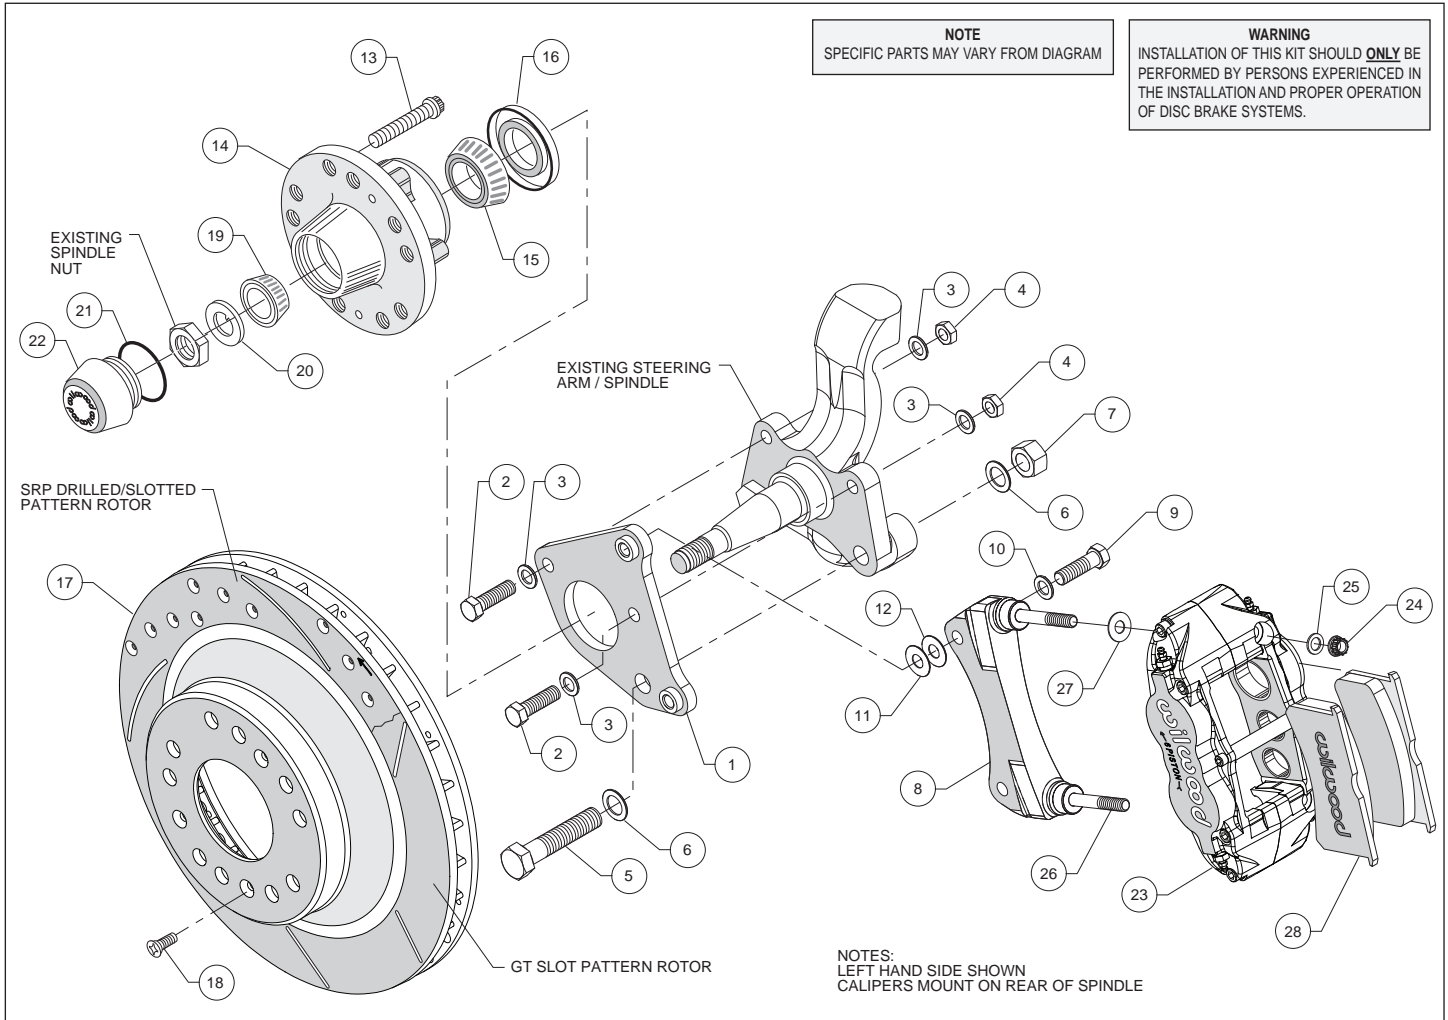
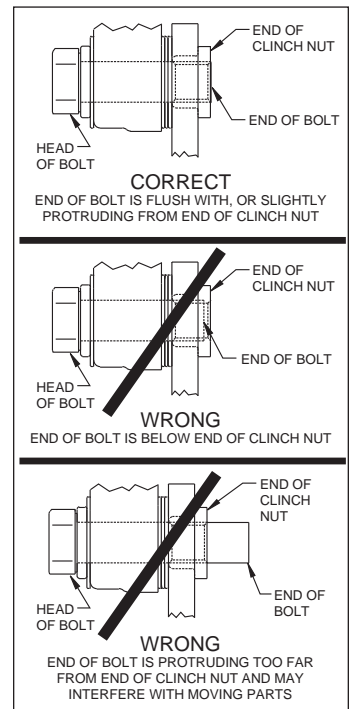

Figure 1. Typical Installation Configuration
Figure 3. Clinch Nut Engagement Diagram
Assembly Instructions (numbers in parenthesis refer to the parts list, and Figure 1): **CAUTION:** All mounting bolts must fully engage clinch nuts. Be sure to check that all bolts are either flush or protruding through flanged side of clinch nut after shimming, Figure 3.
- The flat caliper mount bracket (1) should initially be installed with clean, dry threads on the mounting bolts. Orient the bracket as shown in Figure 1, and install using bolts (2/5), washers (3/6) and secure with nuts (4/7). **NOTE:** Be sure the heads of the caliper bracket (1) insert nuts are facing outward toward the wheel. Temporarily tighten the mounting bolts. **NOTE:** The bracket must fit squarely against the spindle face. Inspect for interference from casting irregularities, machining ridges, burrs, etc. After the bracket alignment has been checked, remove the bracket mounting bolts one at a time and apply red *Loctite*[®] 271 to the threads. Torque bolts (2) to 47 ft-lbs., and bolt (5) to 140 ft-lbs.
- The caliper mount bracket (8) should initially be installed with clean, dry threads on the mounting bolts. Orient the bracket as shown in Figure 1, and install using bolts (9) and washers (10). Initially place one .016" thick shim (11) and one .030" thick shim (12) on each bolt between the flat bracket (1) and radial mount caliper bracket (8), Figure 1. Temporarily tighten the mounting bolts. **NOTE:** The radial bracket must fit squarely against the inboard side of the flat mounting bracket. Later, after the caliper alignment has been checked, the mount bolts will be secured using red *Loctite*[®] 271.
- Install wheel studs (13) into the hub (14), Photo 1. Torque to 77 ft-lb. **NOTE:** There are two five lug patterns in the hub (5 x 4.50 and 5 x 4.75). Ensure the correct hub stud pattern is being used to fit the wheel application.
- Pack the large inner bearing cone (15) with high temperature disc brake bearing grease (available from your local auto parts store) and install into the backside of the hub (14), Photo 2.
- Install the grease seal (16) by pressing into the backside of the hub (14), flush with the end of the hub, Photo 2.
- Pack the small outer bearing cone (19) with high temperature disc brake bearing grease and install into hub (14). Slide the hub assembly onto the spindle. Secure using spindle washer (20) and OEM spindle nut, Photo 3. Adjust bearings per OEM specifications. Install saved OEM nut lock (if any) and a new cotter pin (not included).
- Slide the hat/rotor (17) onto the hub (14) taking care to align the small countersunk holes in the hat with the small threaded holes in the hub. **NOTE:** The hat must fit flush against the hub face or excessive rotor run out may result. Install three flat head screws (18) through the small holes in the hat (14), Photo 4, and torque to 85 in-lb.
- NOTE:** This kit contains distinct right and left hand calipers that must be mounted in a specific direction, as described below. Lubricate the caliper mounting studs (27) with lightweight oil. Initially place one .035" thick shim (19) on each stud between the caliper and the bracket, as shown in Figure 1 and Photo 5. Mount the caliper (23) onto the bracket (1) using lock nuts (24) and washers (25), Figure 1. Ensure that the caliper is mounted so the largest pistons are at the rotor exit end of the caliper, in relation to the direction of rotor rotation. Temporarily tighten the lock nuts and view the rotor through the top opening of the caliper. The rotor should be centered in the caliper, Photo 6. If not, adjust by adding or subtracting shims (11 and/or 12) between the flat bracket and the radial mount bracket. Always use the same amount of shims on each of the two mounting bolts. Once the caliper alignment is correct, remove the radial mount bracket bolts one at a time, apply red *Loctite*® 271 to the threads, and torque to 60 ft-lb.